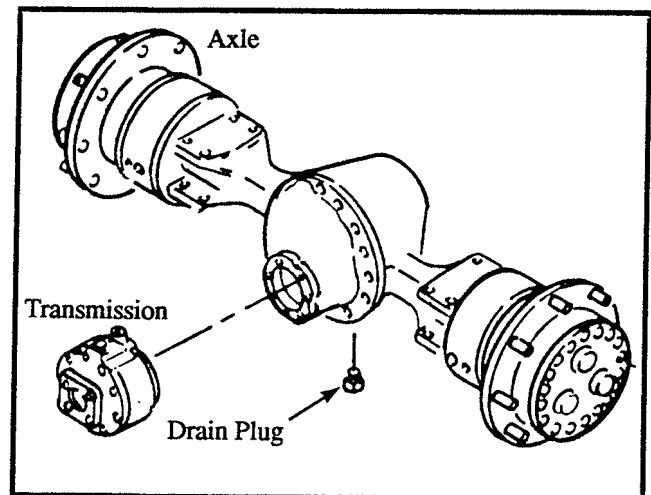

Figure 12-4. Axle Housing Drain Plug
3. Remove the drain plug in the bottom center of the axle housing. Be careful, hot oil and components can burn. Refer to Figure 12-4.